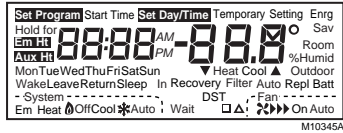

Fig. 7. LCD segments display.
- Press and hold the T8635L Thermostat increase ▲ and decrease ▼ keys at the same time until 10 appears. All display segments display before the 10 appears. See Fig. 7 and 8.